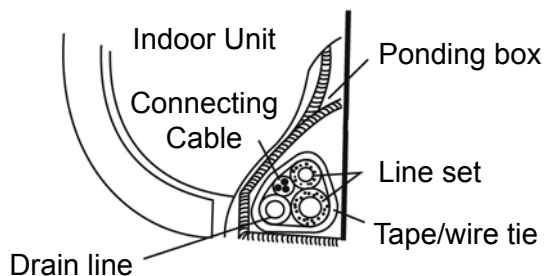

Fig. 14
- A. Bundle the tubing, connecting cable, and drain hose with tape or wire ties as shown in (Fig.14).
- B. Be sure to arrange the drain line such that it is at the lowest point within the bundle as they exit the unit and hole in the wall to the outdoors. (Fig. 14)